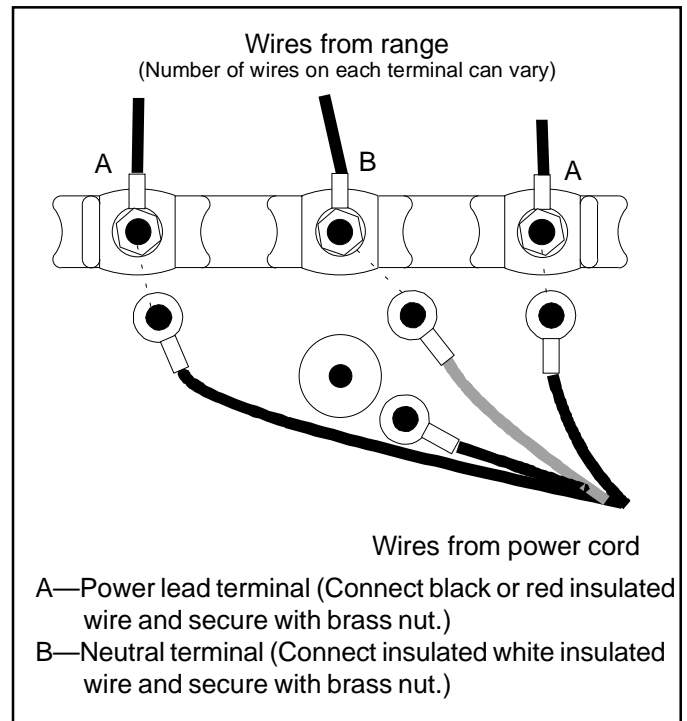

Figure 9
5. Attach cord neutral (center) or white wire to center terminal on terminal block. Secure with hex nuts provided. See Figure 9.